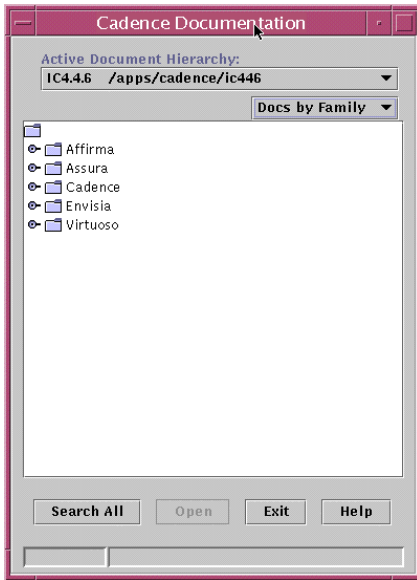

Figure 56: Documentation Browser
3. A pop-up will appear like Figure 56.